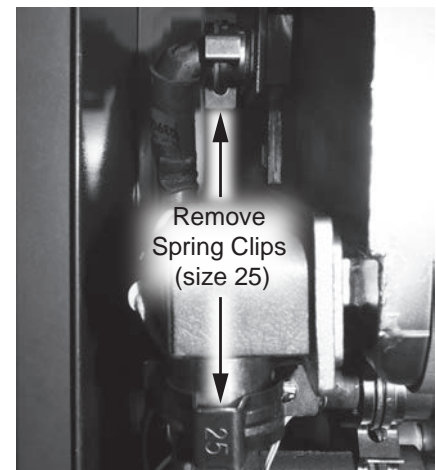

Figure 146 - Disconnecting secondary HEX water piping
- 37** Locate the inlet and outlet water connections on the secondary HEX. Remove the two spring clips (size 25) securing the water connections and place them aside in a safe place for reinstallation. Disconnect piping. See Figure 146.